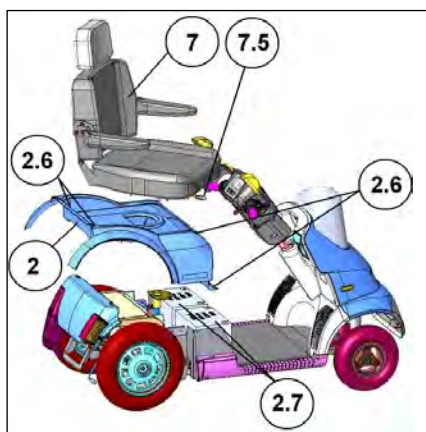
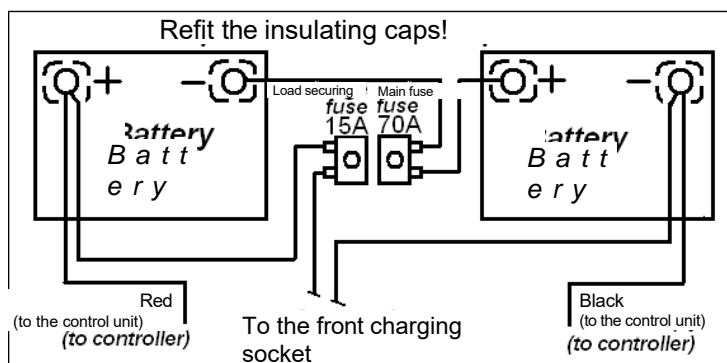

Figure 11
Figure 12
2. The figures in brackets refer to the parts shown in Figure 11.
Battery replacement	<p>Please note! Batteries may only be replaced by trained specialist personnel.</p> <p>Warning! Batteries contain a lot of energy and can cause sparks, which can lead to a potential fire hazard.</p> <p>Warning! Improper handling of batteries can lead to damage and injury.</p> <p>Please refer to Figure 12 for this procedure.</p> <ol style="list-style-type: none"> 1. Remove the terminal insulation cap from a battery terminal. 2. Unscrew the cable from the terminal using a 10/13 mm wrench. Make sure that the wrench does not touch any other terminals or metal parts, as this can lead to damage or injury. 3. Repeat steps 1 and 2 for all other terminals 4. Remove the old batteries and insert the new batteries. 5. Connect the cables of the new batteries as shown in Figure 11 (see also the label near the batteries). 6. Screw the terminals tight and replace the insulating caps.